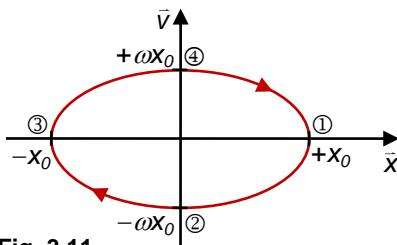

Fig. 3.11
Using  $\bar{v} = \pm \omega \sqrt{x_0^2 - \bar{x}^2}$ , we can then get  $\bar{v} - \bar{x}$  plot as shown in Fig. 3.11.
For  $\bar{x} = x_0 \cos(\omega t)$  the plot goes from ①  $\rightarrow$  ②  $\rightarrow$  ③  $\rightarrow$  ④  $\rightarrow$  ① (Fig. 3.11 & 3.12).
' $\pm$ ' reflects the fact that for each  $\bar{x}$  there are two possible  $\bar{v}$  directions as shown in Fig. 3.11.